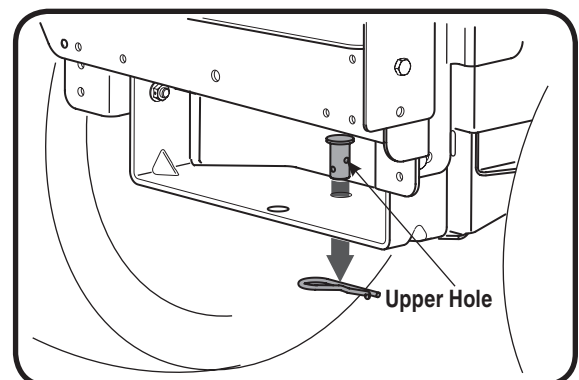

Figure 3-8
6. Reinsert the clevis pin through the aligned holes in both the bracket assembly and the hitch plate and secure with the hairpin clip removed earlier. See Fig. 3-8 for reference.